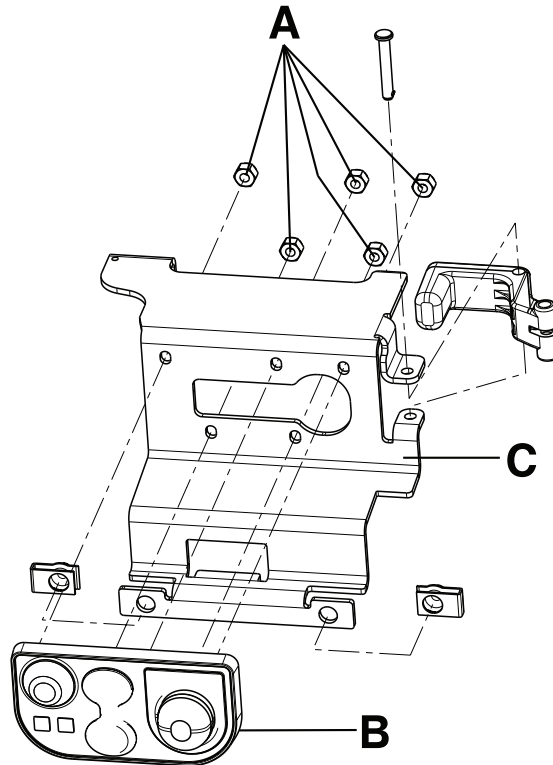

Figure 11 – Master On/Off switch and manual release button bracket assembly
2. Using an 11/32" nut driver, remove the five Fiberlock hex nuts (A) that secure the master On/Off switch (B) to the manual release button bracket (C). Discard the master On/Off switch (Figure 11).